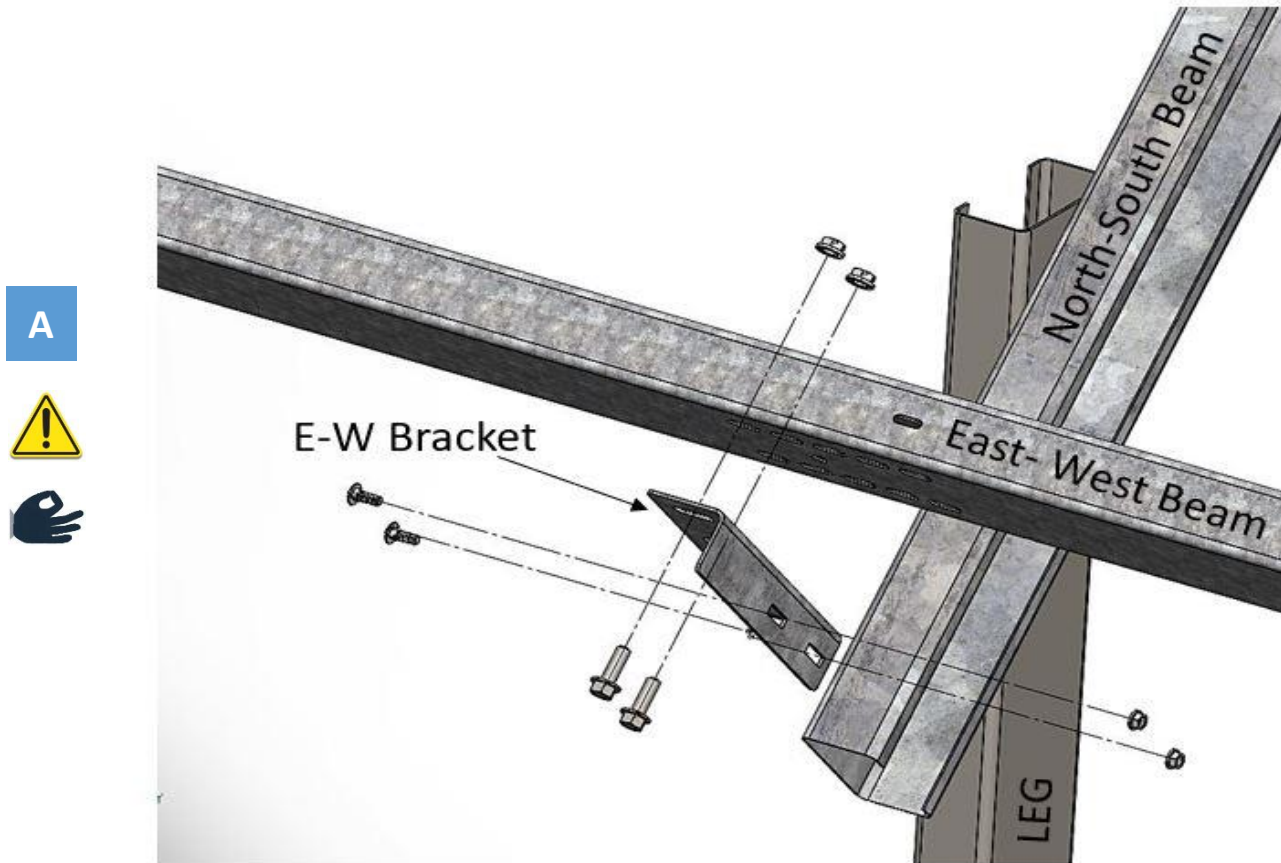

Figure 15: East-West Beam installation
Install East-West Beam to East-West Bracket by using (hand tightened) two (2) 1/2"-13 Serrated Flange Bolt, 1" Length, Grade 5, Magni 565 Coated (or HDG) and two (2) 1/2"-13 Serrated Flange Nut, Grade 5, Magni 565 Coated (or HDG) on each side as shown in figure 15 and as per engineering drawings provided. Match one of the slots on the East-West beam and avoid forcing/stressing beam/bracket into a slot. Ensure East-West Beam is seating on North-South Beam (drain holes down), adjust East-West Bracket height as necessary. See section 4-c of this document for tolerances and Adjustability).